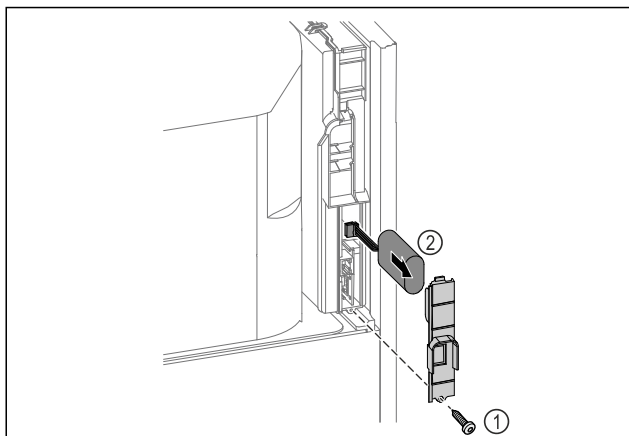

Fig. 222
- ▶ Unscrew screw and remove cover from the back of the appliance Fig. 222 (1).
- ▶ Disconnect and remove battery Fig. 222 (2).